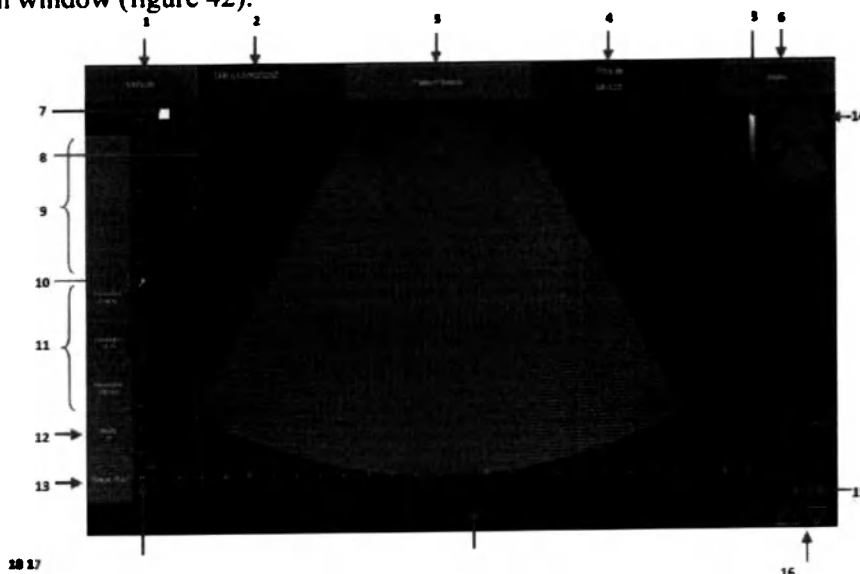

Figure 42. The main window.
14.2.1. Main window (figure 42):
The functions of the keys that have the numeric designation 1-18 in Figure 42 are described